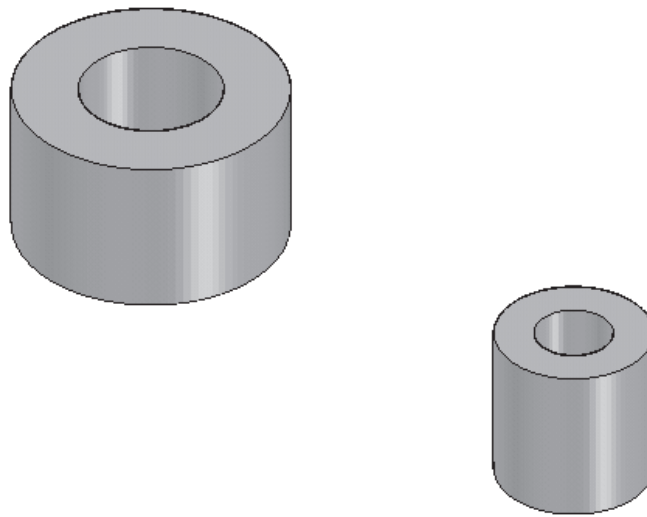

Figure 5-68 Base feature of the model
- Create the base feature on the top plane, refer to Figure 5-68.
- Exit the sketching environment and then extrude the sketch symmetrically through a distance of 25 units. The base feature of the model is shown in Figure 5-68.